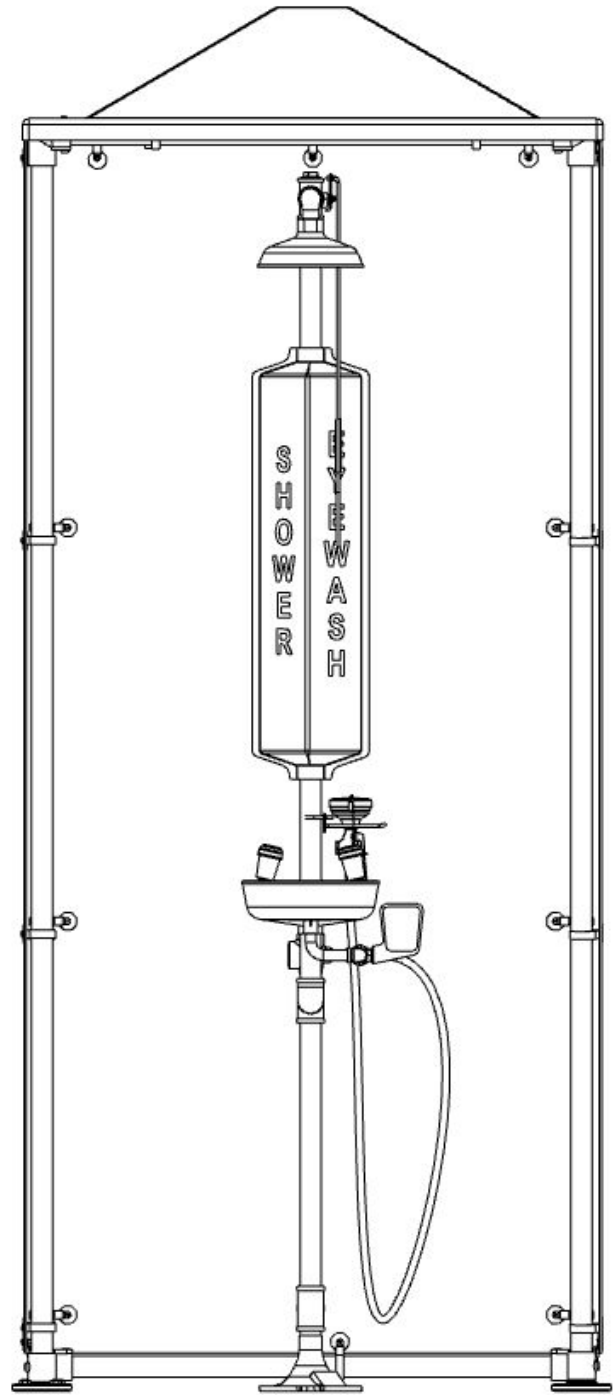

FIGURE 16
3. Inspect finished product for tight clamps, joints and panels. **SEE FIGURE 16.**